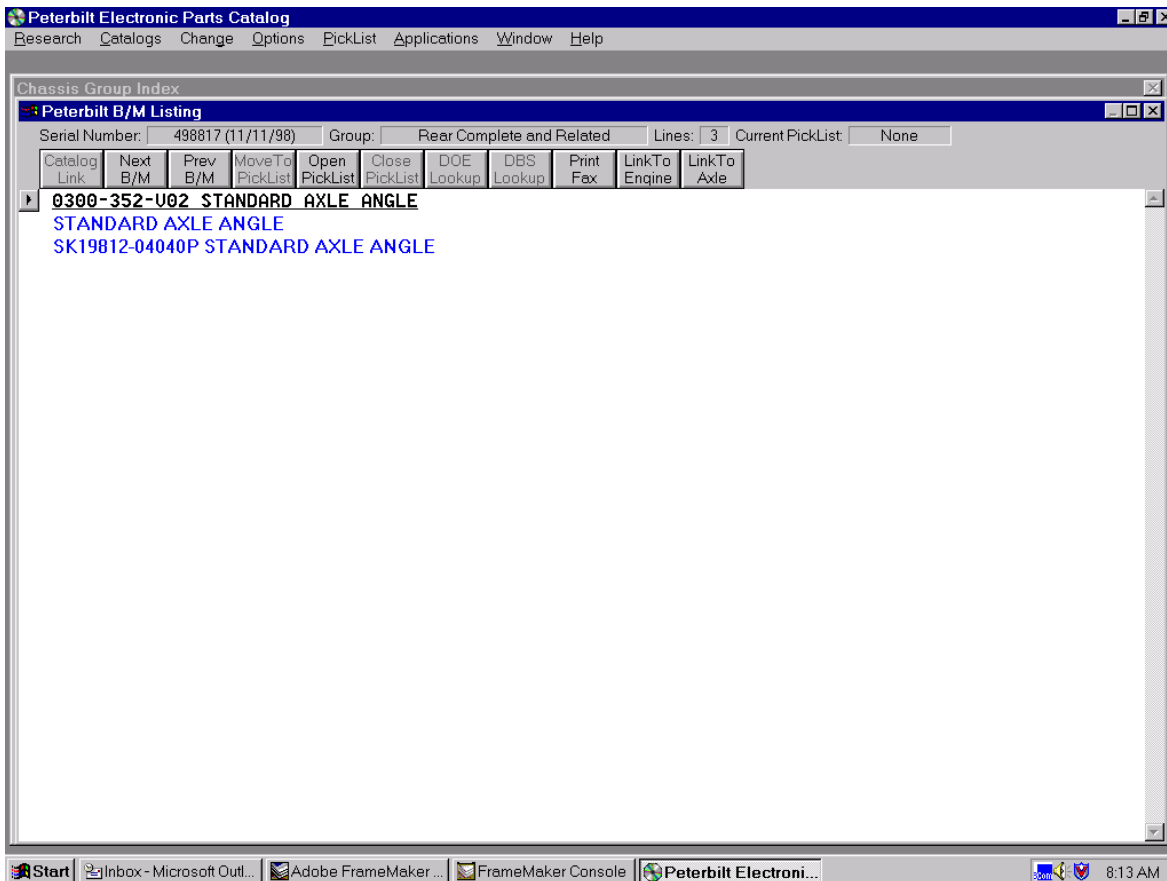
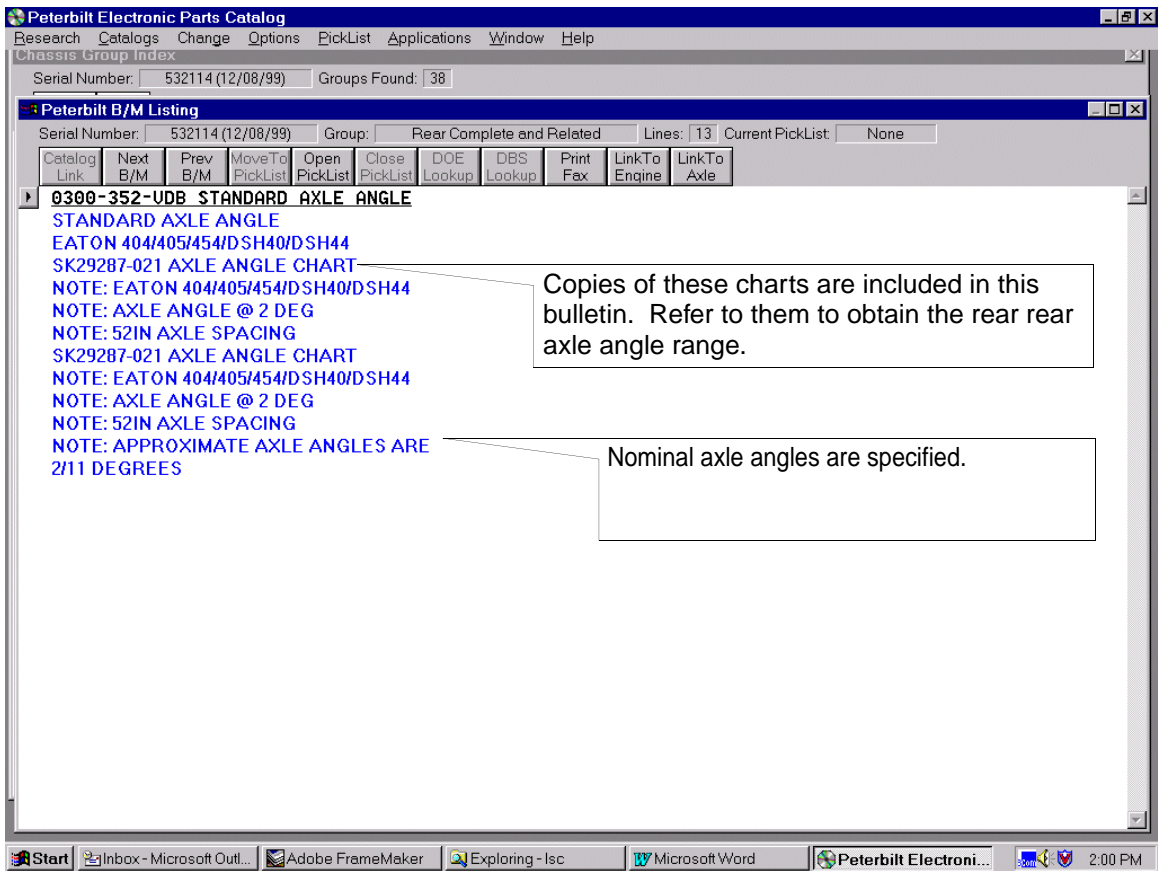

Figure 6 Example of Rear Axle Angle Information Bill (Parallel Axle Configuration)
Figure 7 Example Rear Axle Angle Information Bill (Broken-back Axle Configuration)
- Refer to Figure 6 and Figure 7 for examples of rear axle angle bills.